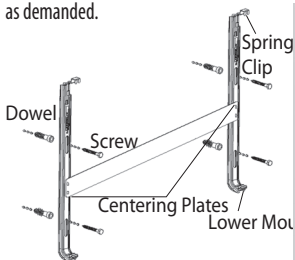
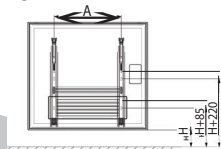
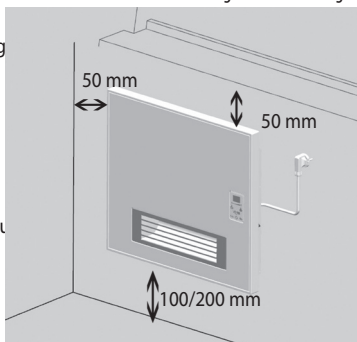

Figure 5. Wall mounting bracket
Figure 6. Centering holes
Figure 7. Minimum safety zones required for the efficiency of the appliance
2. Correct space has to be measured in order that the connection cord can easily be connected to the electric socket. After determining the place the holes for montage must be drilled according to the method shown in Figure 7. To fix this appliance you can use the wall mounting bracket. (Figure 5) Mounting bracket can be used as a template for positioning and drilling points. You can place the bracket on the wall and measure the space between the floor and the lower part of the bracket as min 100 mm or max. 200 mm. Mark the screw-holes through the holes with an appropriate pen. You have to be careful to ensure the safety zones are kept free in order that the appliance can work efficiently. (Figure 6.)
5. Back side of the Electric Heater with arrow sign will be placed to the plastic part of the wall mounting brackets as shown in the figure 6. (↓)